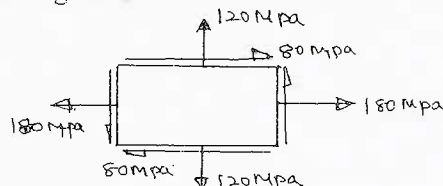

Fig.Q.3(b)
b. The state of stress at a point in a strained material is as shown in the Fig.Q.3(b). Determine: